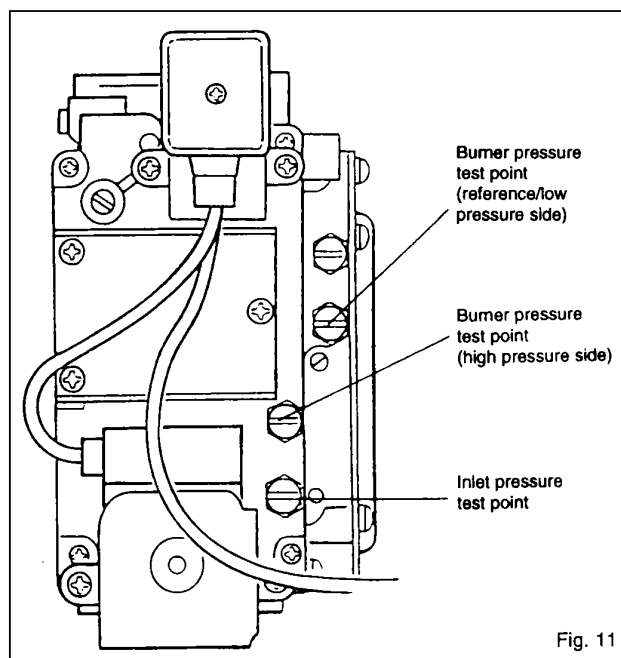

Fig. 11
1. Turn off the gas service cock. Fit a pressure gauge to the gas inlet pressure test point on the gas control valve. Connect a differential pressure gauge or 'U' tube manometer between the burner pressure gauge test point (high pressure side) and the reference pressure test point (low pressure side) on the gas valve (see Fig. 11).